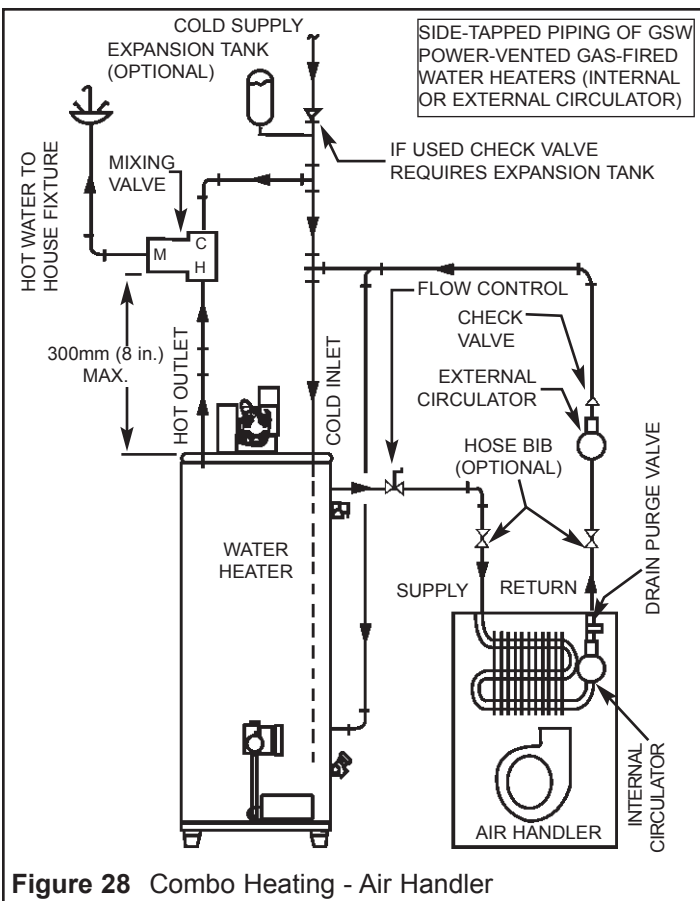

Figure 28 Combo Heating - Air Handler
8. "Combo" Heating Systems require higher water temperatures than other applications. When the system is used to supply water for Combo Heating applications, a means, such as mixing valve, must be installed to temper the water in order to reduce scald hazard potential (see Figures 28 & 29).
The following is a list of requirements for the installation of the heating loop to the water heater (see Figure 28).